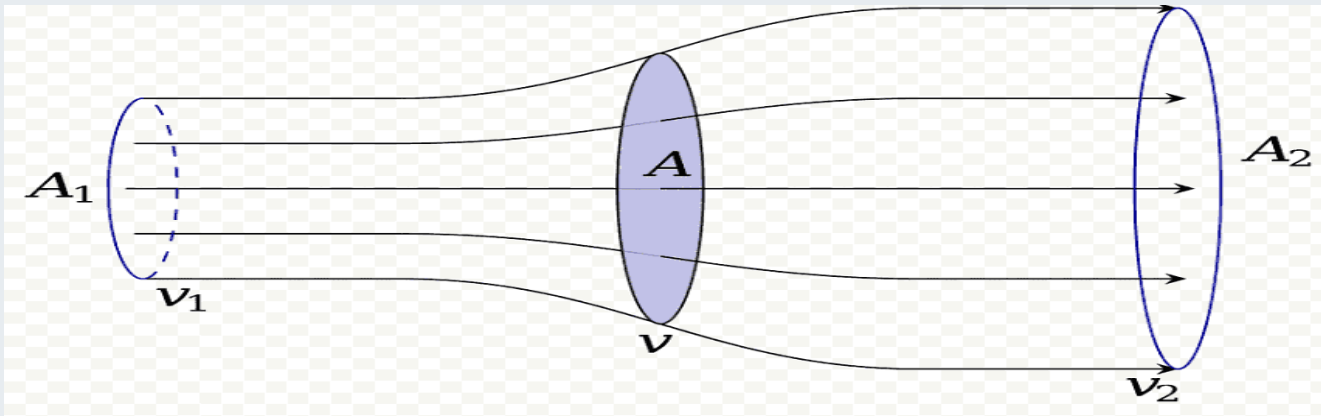

Figure 2. Control volume air follows streamlines that pass through the rotor. Source: www.pngwing.com
- **Conservation of Mass:** assume all the air that enters at A_1 leaves from A_2 as presented in Fig.2.